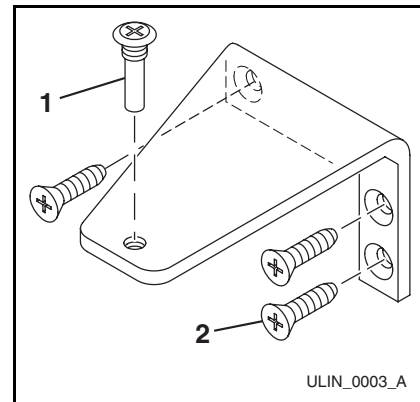

Figure 23
1. Remove top hinge screw pin (**Figure 23, 1**) from door using a Phillips screwdriver. Remove door by tilting forward and lifting off bottom hinge pin.
3. Remove top hinge (three screws) **(Figure 23, 2)** and reinstall hinge screw pin **(Figure 23, 1)**.